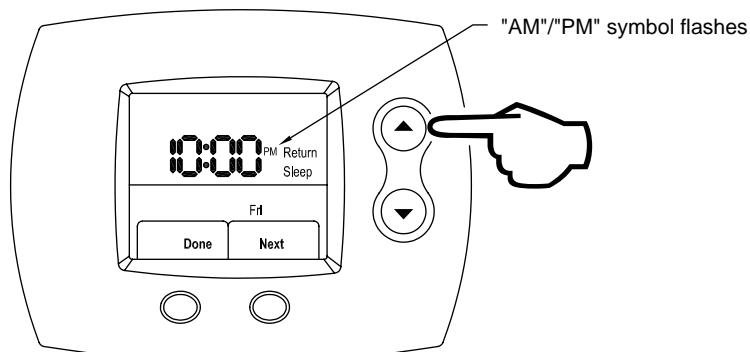

Figure 141
Step 24: Next, using the **UP** (index AM / PM) or **DOWN** (index AM / PM) buttons, select AM / PM, as shown in Figure 141.